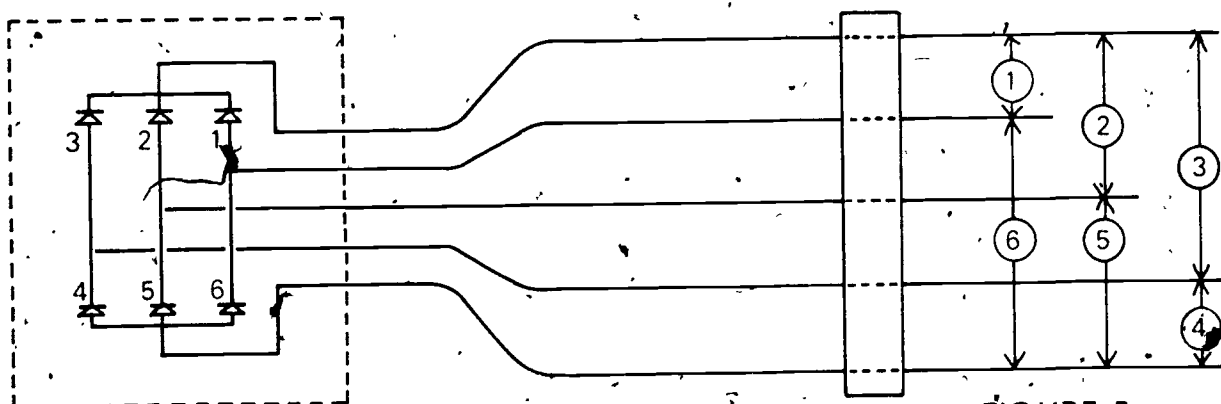

FIGURE 5
2. Connect the ohmmeter across each individual diode (Figure 5)